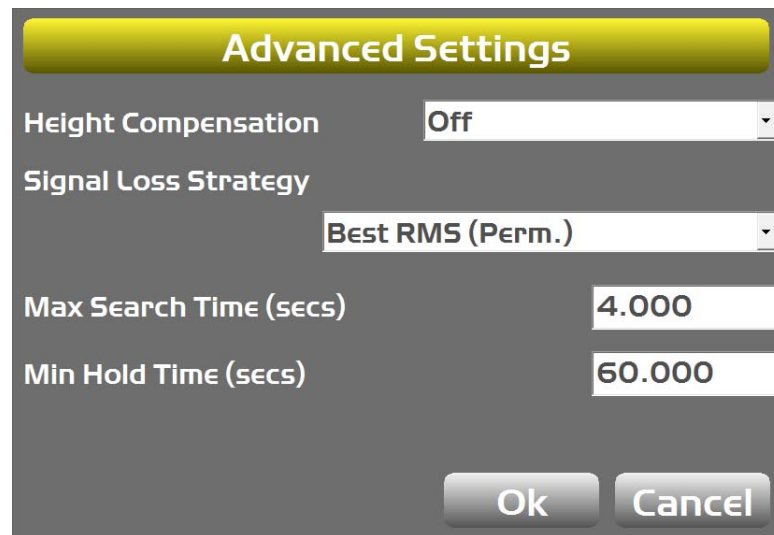

Figure 61: mmGPS Advanced Receiver Settings
3. If needed, tap **Advanced**. The **Advanced Settings** screen appears (Figure 61).